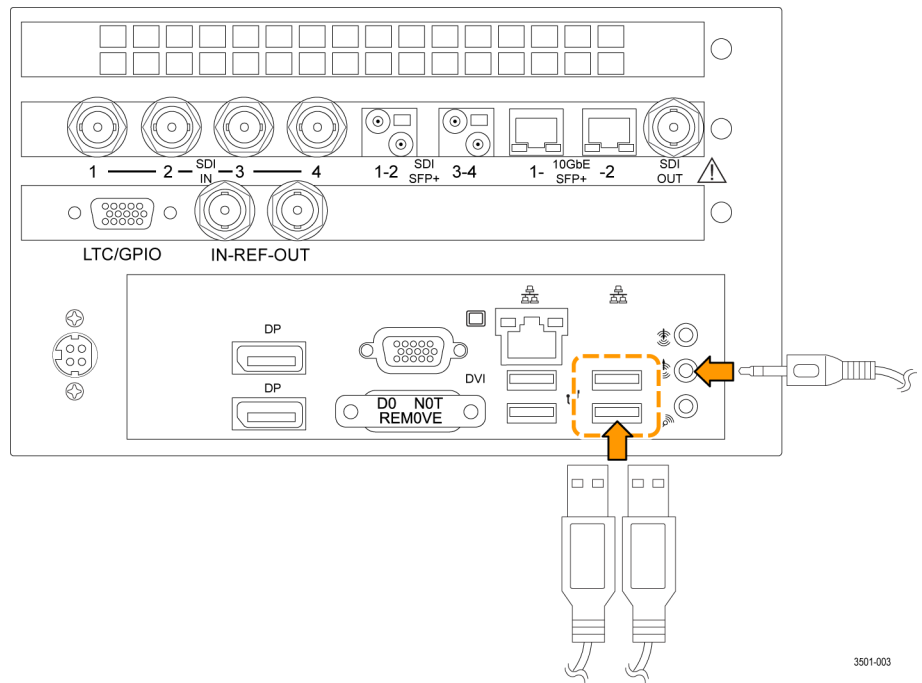

Figure 4: Connecting the cabinet USB and audio cables to the PRISM monitor
- b. Use two screws (item 3 in Table 2) to secure the instrument in the dual rack cabinet. The screws attach to the top right and bottom left holes in the instrument chassis as viewed from the rear.
- c. Connect the cables from the USB ports and headphone jack on the dual rack cabinet to the rear of the instrument. (See Figure 4.)